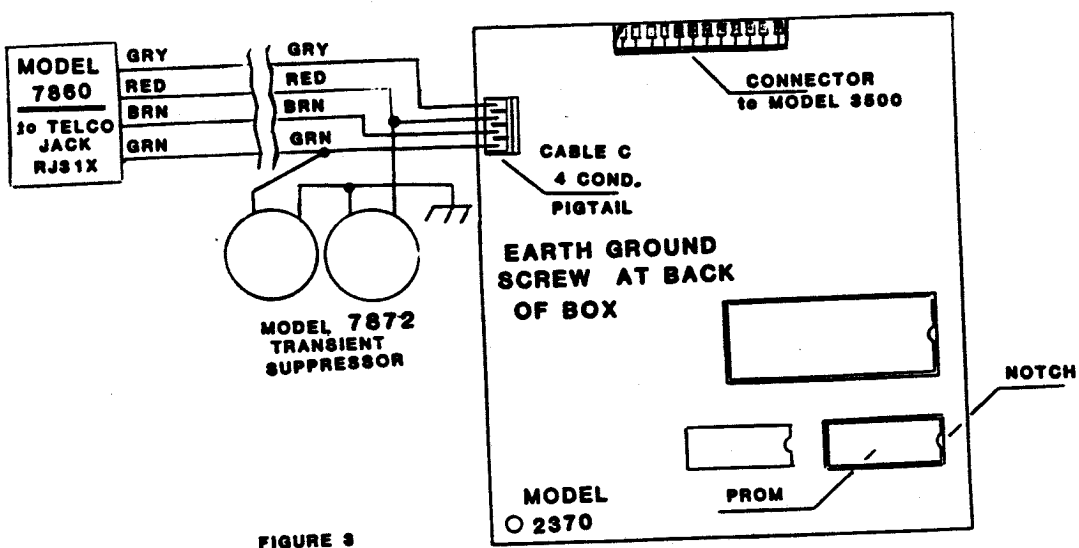

FIGURE 3
LIGHTNING PROTECTION (See Figures 3&4)
9) At the 2370, connect the Model 7872 transient suppressor between the red and green wires of the Model 7860 telephone inter-connect cable, and the earth ground screw at the back of the box. (see Figure 3)